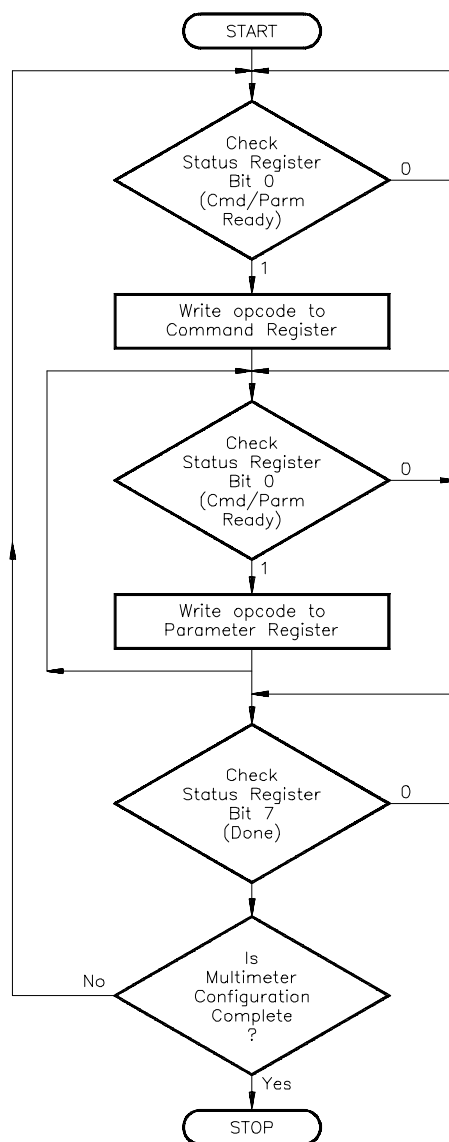

Figure B-3. Configuring the Multimeter
1. Table B-1 on page 96 lists the multimeter's commands. When doing any of these commands, you are writing to registers which are read by the multimeter's voltmeter microprocessor. It is important to follow the procedure in Figure B-3 on page 97 on how to send commands. This will enable you to handshake with the E1326B microprocessor as you can easily write commands faster than the processor can execute them.